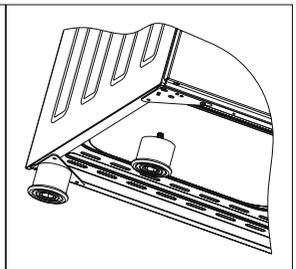

Figure 12
3. If your oven has plastic food as in (Figure 12) you can adjust your ovens height from these feet as turned clockwise or anticlockwise.